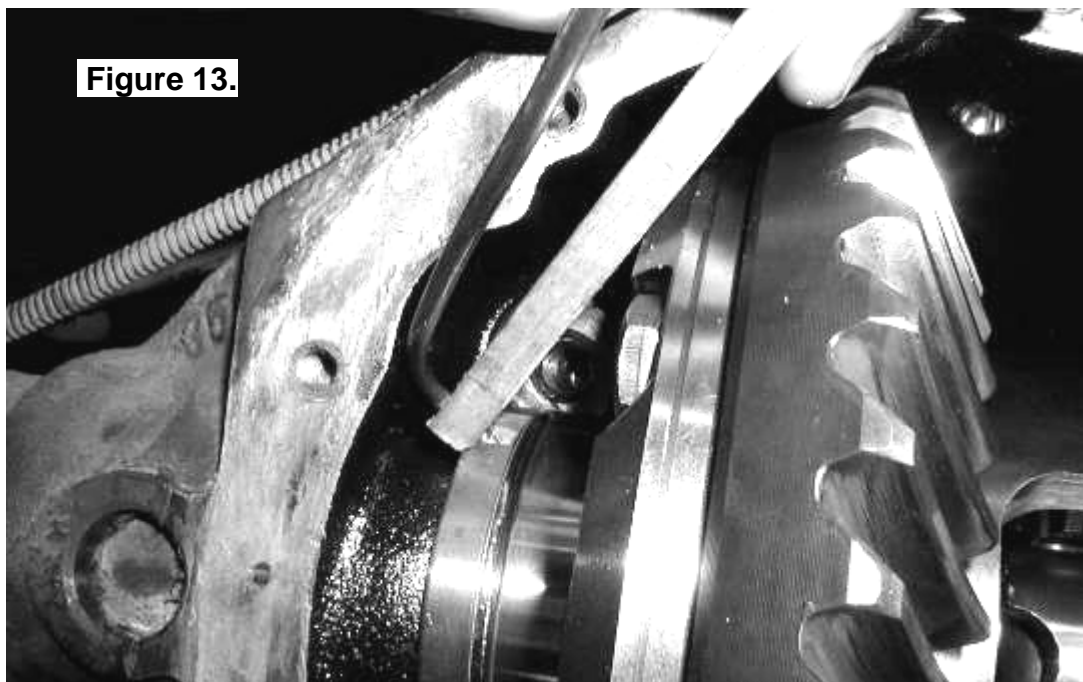

Figure 13.
- Using a soft instrument such as a wooden drift, bend the seal housing tube outward and away from the position of the bearing cap. (Fig.13.)